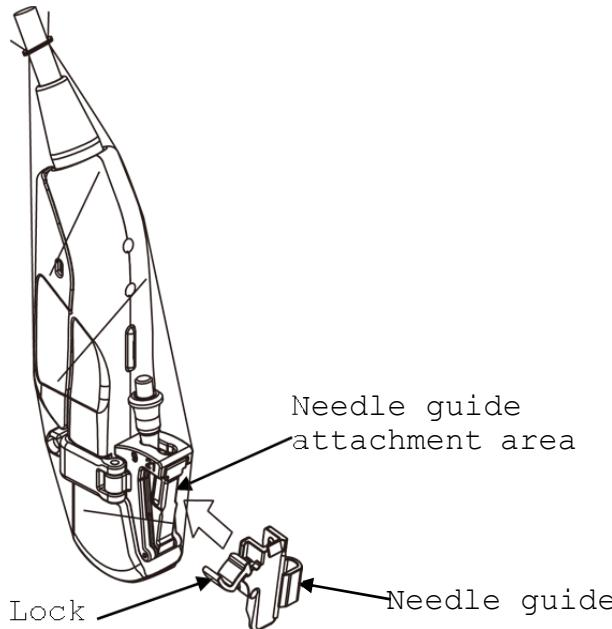

Fig. 9 Attaching the needle guide
- 1) Place an appropriate amount of gel inside the cover and/or on the Probe head. (See Fig. 9)